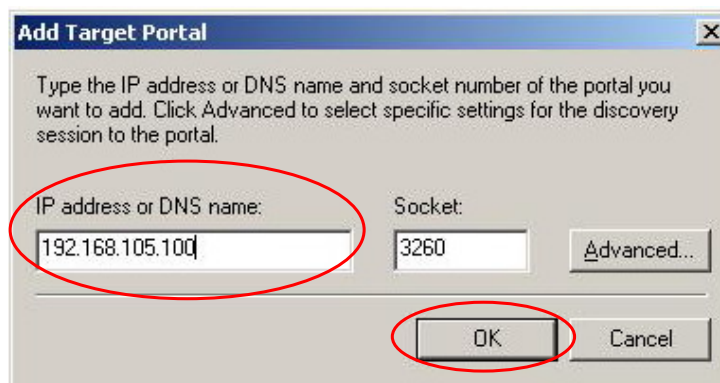

Figure A-3: Adding a Target Portal
**Step 3.** When the **Add Target Portal** window prompts, enter your RAID subsystem channel IP address. The channel is the one that connects the iSCSI RAID subsystem to your host computer. Click **OK** to add. (See *Figure A-3*)